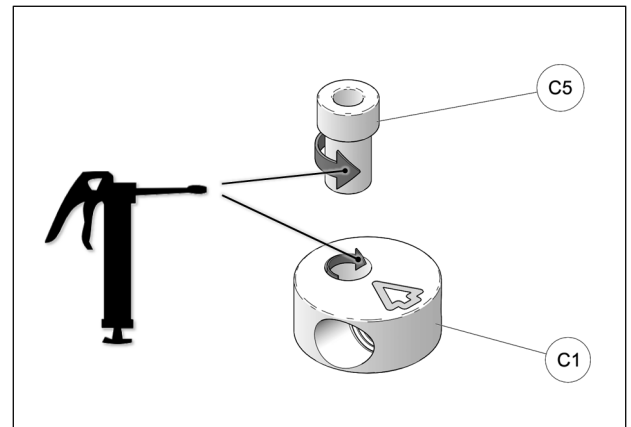

Fig. 21
- Apply grease evenly all around step spacer bushing (C5) and in hole of aluminum disk (C1) when assembling these parts together. See Fig. 21